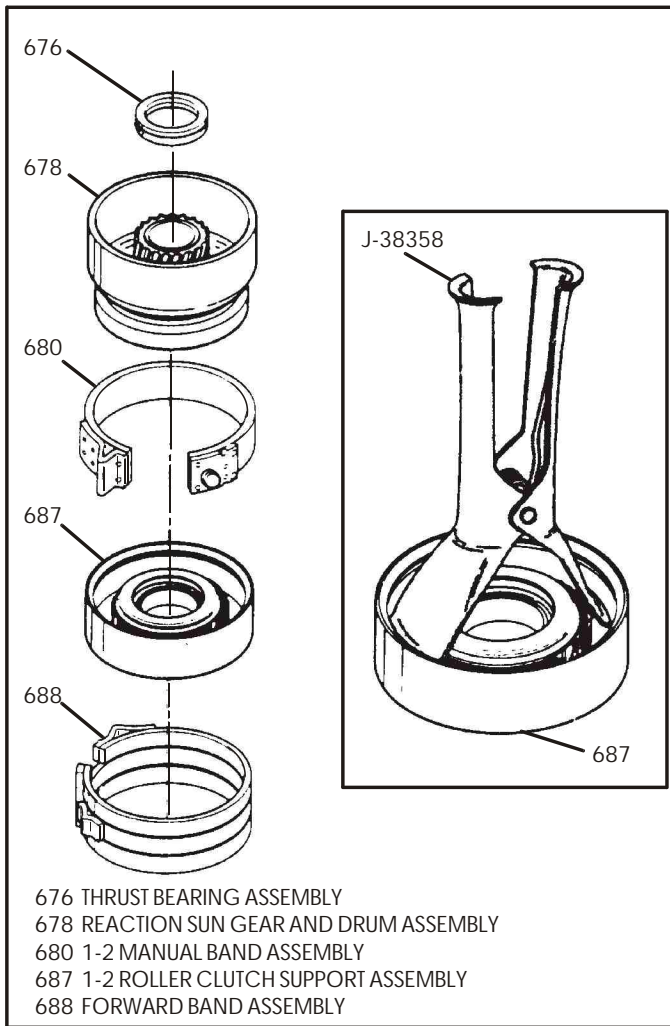

Figure 76
29. Remove the reaction sun gear thrust bearing, as shown in Figure 76.
30. Remove the reaction sun gear and drum, by lifting straight up (See Figure 76).
31. Remove the 2-1 manual band assembly from transaxle case (See Figure 76).
32. Remove the 1-2 roller clutch and support from transaxle case, using removal tool J-38358, as shown in Figure 76.
33. Remove the forward band assembly from the transaxle case by lifting on the side directly opposite the anchor pin (See Figure 76).